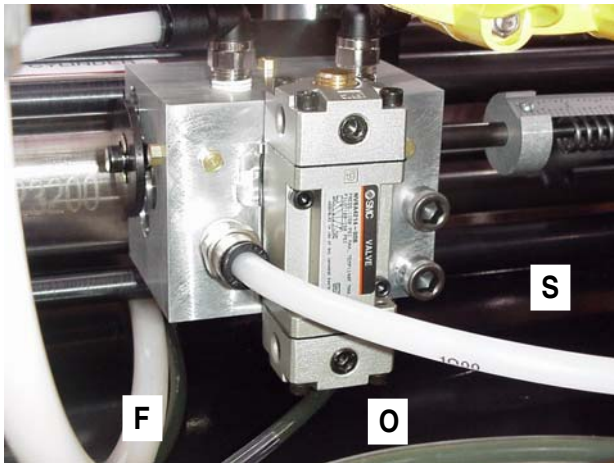

FIG. 20
3. Open the pump A and pump B air shutoff valve (S), FIG. 20.